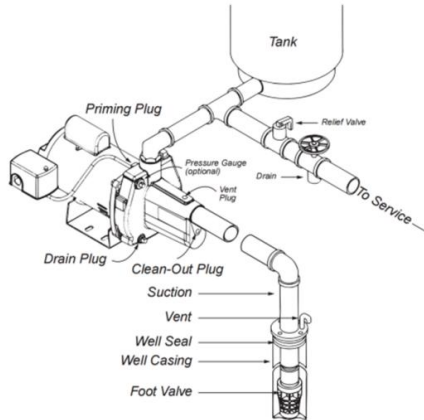

FIG. 2A SHALLOW WELL (WITH FOOT VALVE)
d) Service Line: The service line should be connected as shown in Fig. 2a, b, c or d. The size of the service line required is governed entirely by the amount of water needed and the length of the pipe. The pipe selected should be large enough so that the friction loss (determined from Table 2, Friction Loss Chart) will never exceed 20 ft (6m) head.